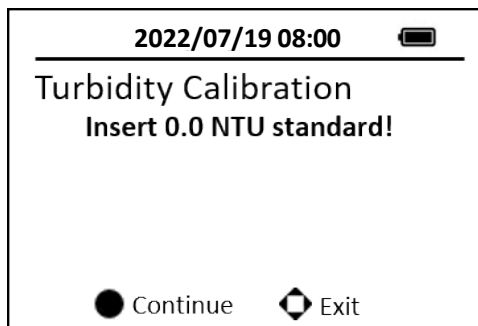

Figure 6 Turbidity calibration page
4. Press the **CAL** on the main page, then choose the Turbidity calibration and press the **OK** button to launch the Turbidity calibration page. (Figure 6)